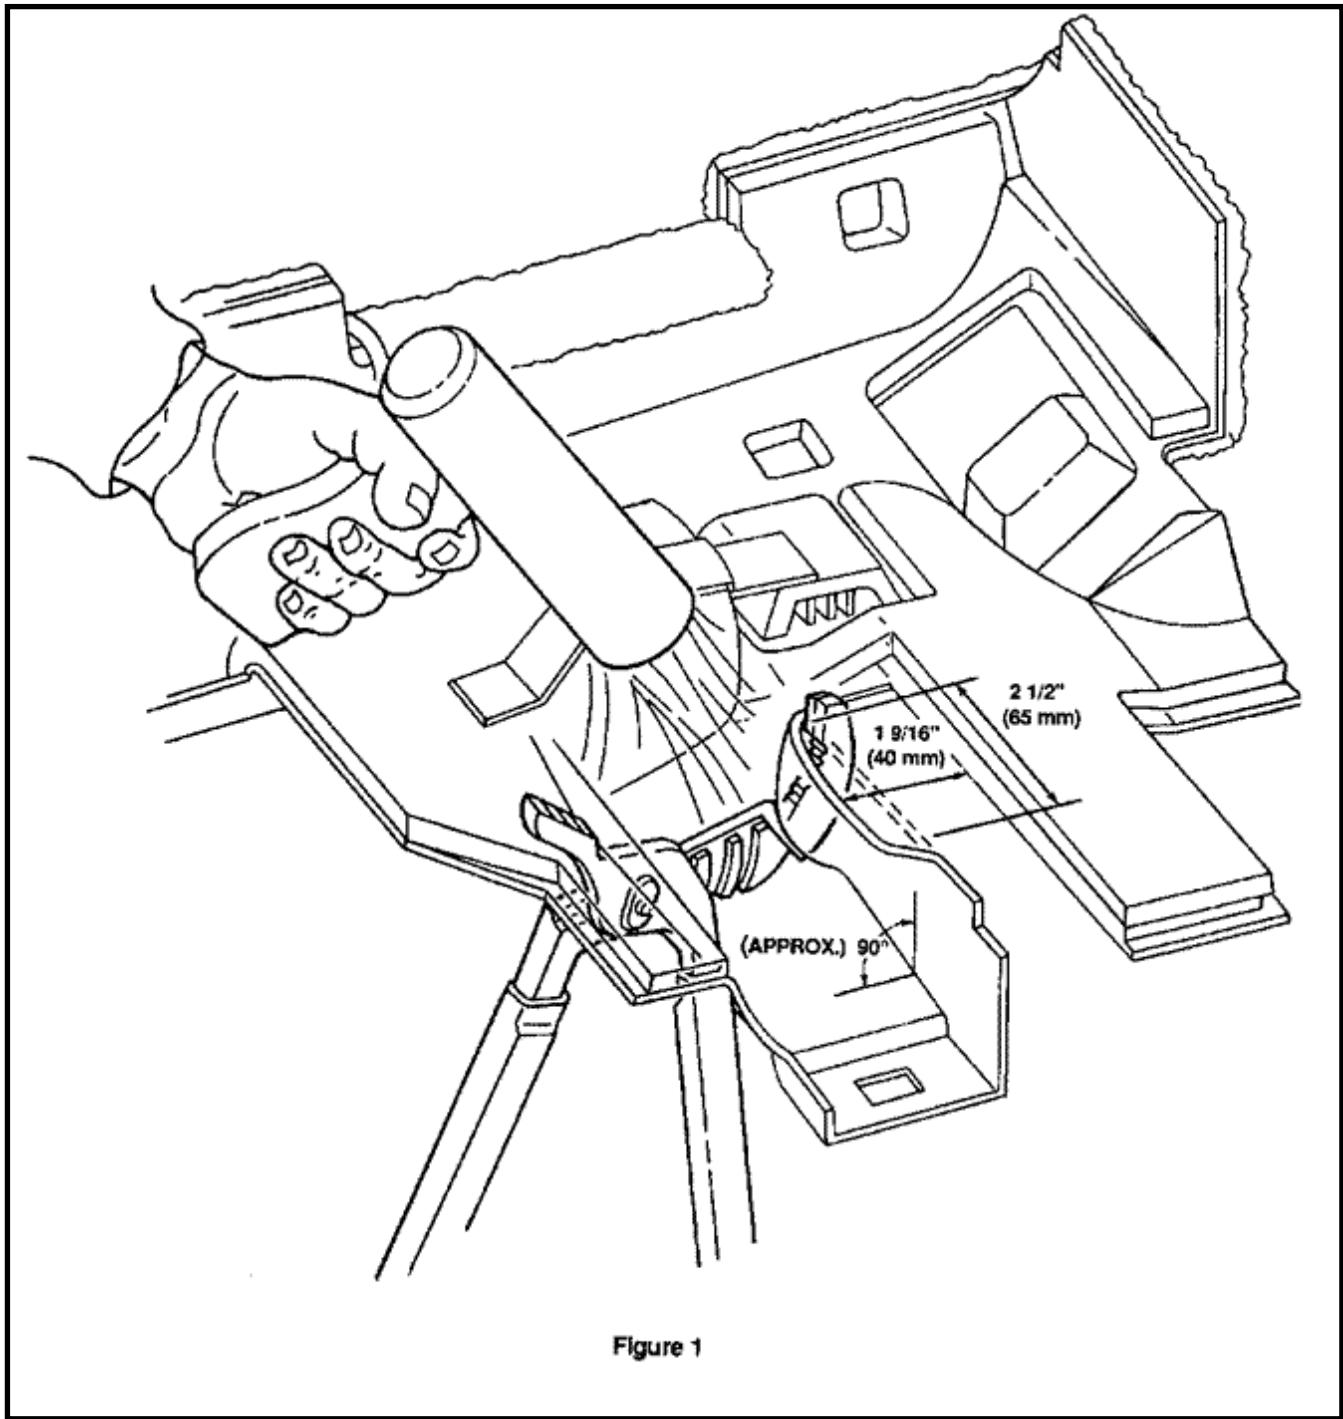

Figure 1
4. Using Channel Locks (R) size 16 or larger, place near the upper LH corner of the I/P lower trim panel as shown in Figure 1. Quickly reform the brake pedal opening to configuration and dimensions indicated in illustration. If necessary Channel Locks may be moved downward during initial reforming and/or Steps 3 and 4 may be repeated to obtain minimum clearance of 2mm between the brake service pedal arm and the I/P trim panel.